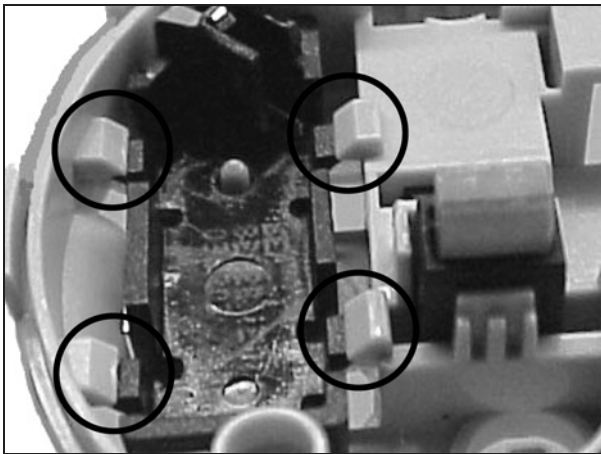

Figure 7-24.
1. Locate the GPS antenna at the top of the back housing just above the vibrator. Note that the GPS antenna is held in place by four clips. (See Figure 7-24.)